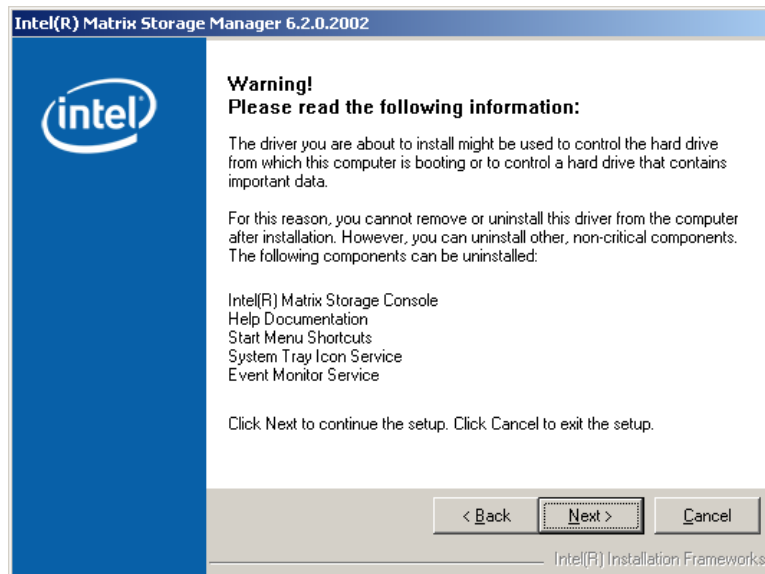

Figure 6-31: Matrix Storage Manager Warning Screen
Step 9: Click **NEXT** and a warning appears (Figure 6-31). Read the warning carefully and decide whether or not to continue the installation process.